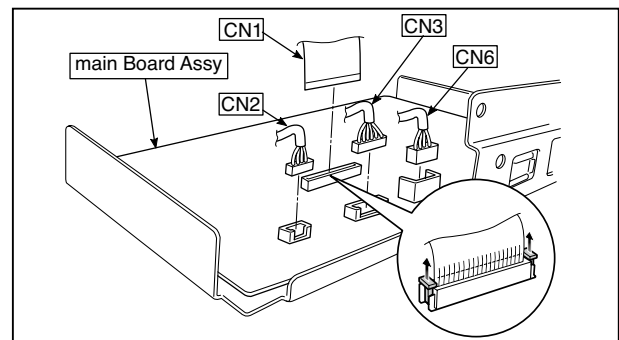

Fig.13
- 3.Disconnect the connector (CN1,2,3,6) connected to the Main Board Assy shown in the figure 13.(See Figs. 13 and 14,15.)